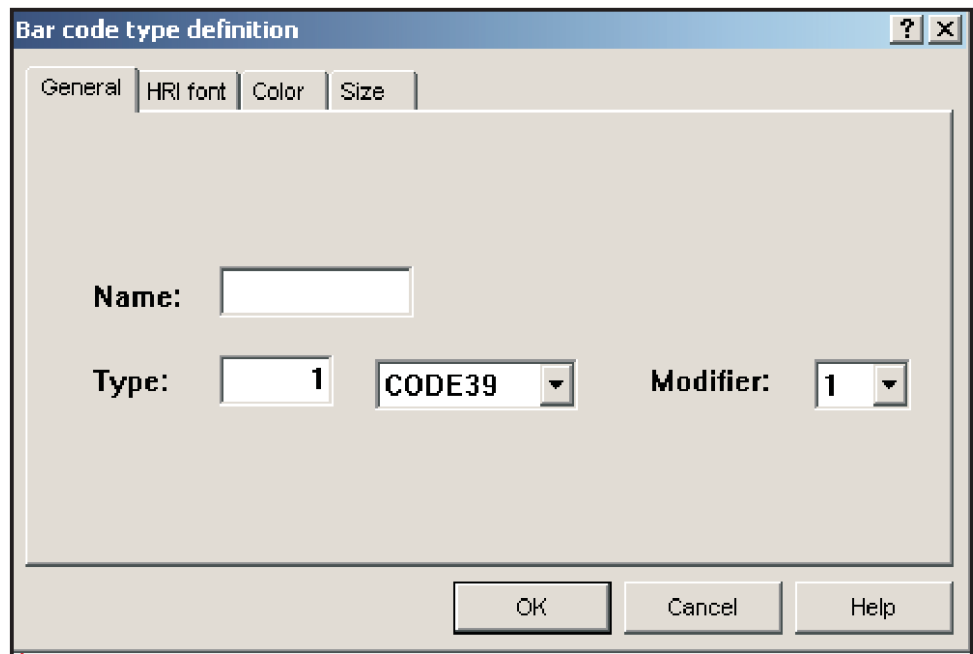

Figure 43. Defining the Bar Code
2. The **Bar code type definition** window opens, shown in Figure 43. Use the pages on this window to specify the bar code's name, type, modifier, HRI font (if you want HRI), color, and size. Click **OK**. This defines a new bar code for the layout.